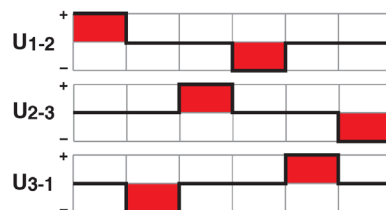

Figure 6-45 Block commutation of EC (BLDC) motors – Definition of phases
- either ensure that the alignment follows the specified pattern (→ Figure 6-45)